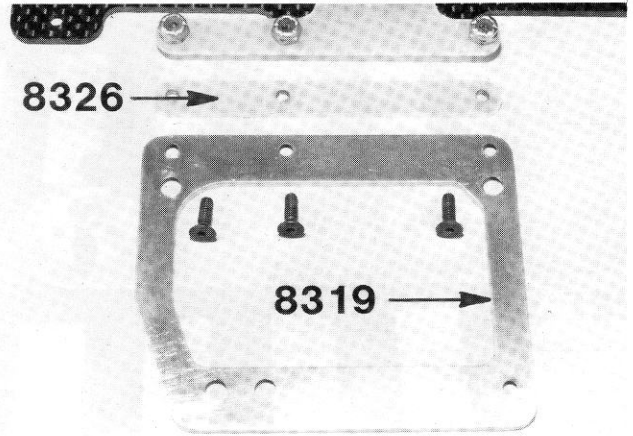

**Fig. 21**
□ **Figs. 21 & 22**— From Bag #4 remove the #8184 shock/antenna mount and carefully trim off the small round shock bushing and save it for the shock installation (Figs. 64 & 65). Install the #8184 shock/antenna mount with the two allen flat head screws.